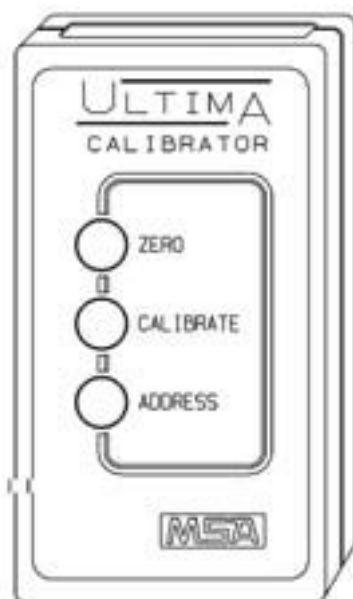

Fig. 23 Ultima Calibrator
- Ultima Calibrator P/N 809997 (Fig. 23)